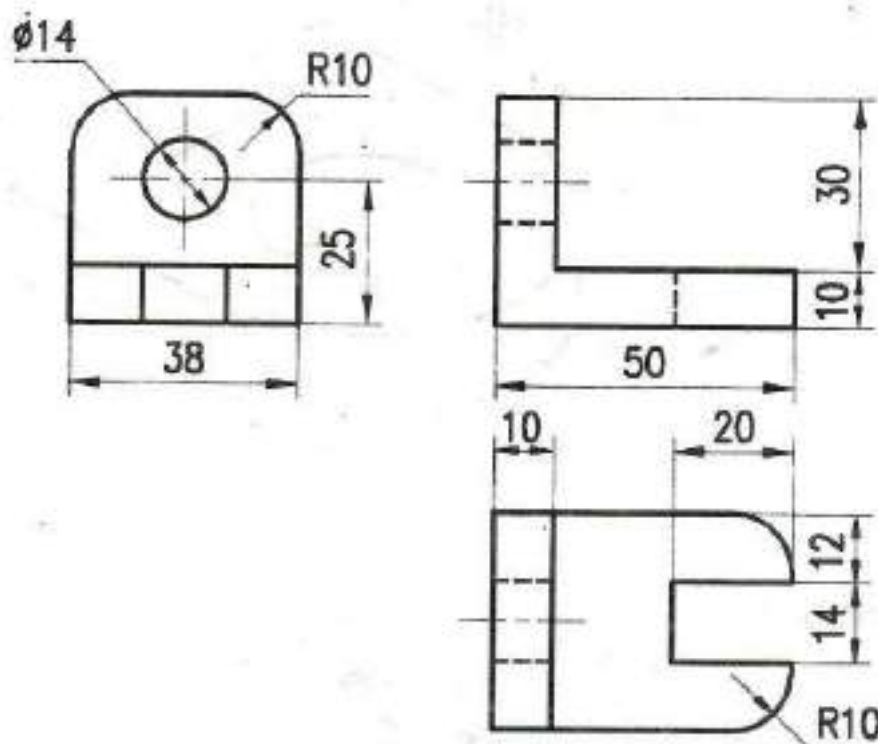

Fig:3
11. Draw the isometric view of the given component as shown in Fig:3.